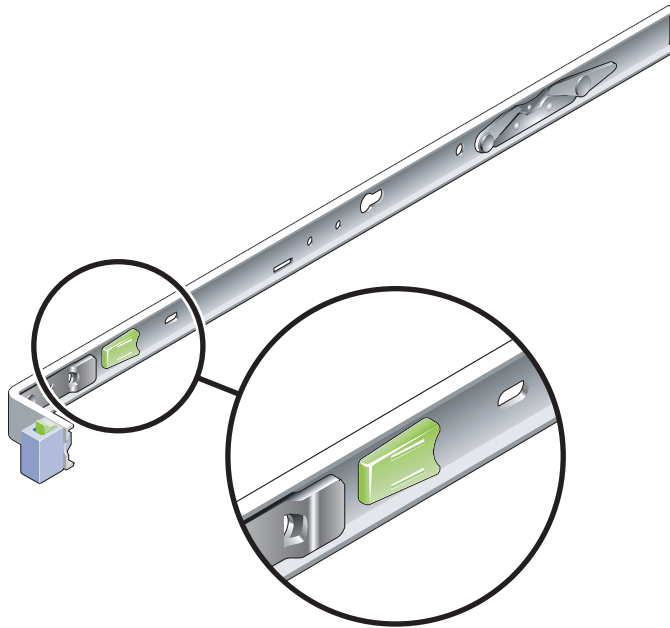

FIGURE 2-2 Mounting Bracket Release Button
- c. Slide the mounting bracket release button to the left (FIGURE 2-2), then slide the mounting bracket completely out of the slide rail.